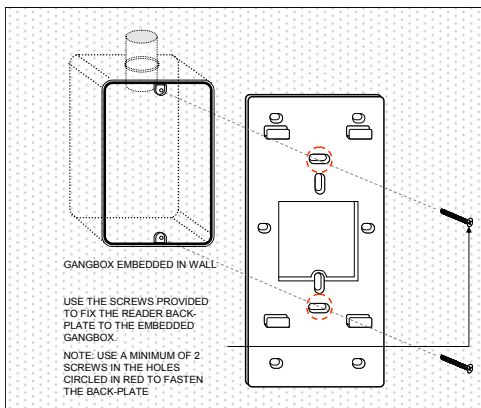

Fig.4. Fixing reader back-plate to concrete wall
2. Hold the back-plate in position over the gang-box. Align the mounting screws with their holes and fasten the back-plate securely on the gang-box using the screws. See **Fig.4**.